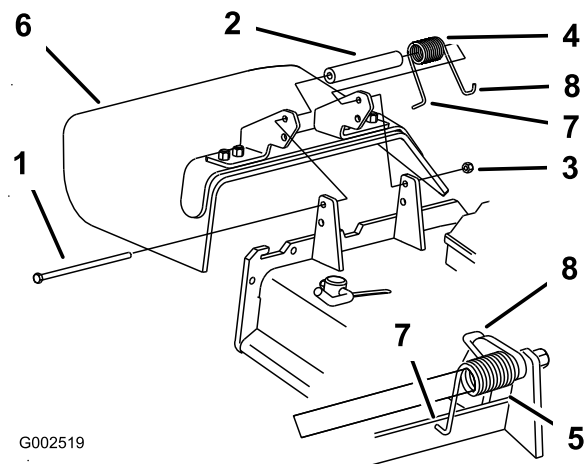

Figure 89
1. Remove the locknut, bolt, spring and spacer holding the deflector to the pivot brackets (Figure 89).
Note: Make sure the L end of the spring is installed behind the deck edge before installing the bolt as shown in Figure 89
5. Place the J hook end of the spring around the grass deflector (Figure 89).